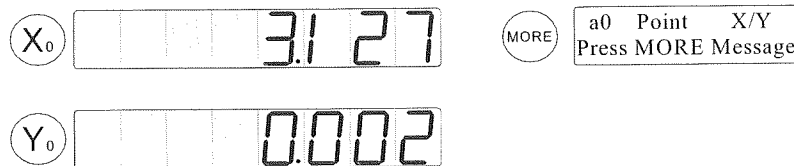

Figure 2-13 Point Message
- g. Press the  key to construct the point. A point will be constructed at the intersection of the vertical line and the horizontal line. The point (defined as a0) will be added to the feature list and its location will be shown on the Point screen. (Figure 2-13)